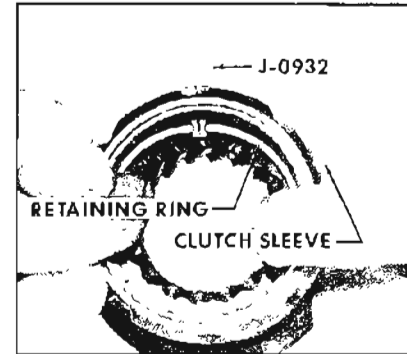

Figure 4-23—Installing Synchronizing Rings
**CAUTION:** Make sure the retainers are seated in the groove all the way around the ring, so that the ring can turn freely. See Figure 4-23.